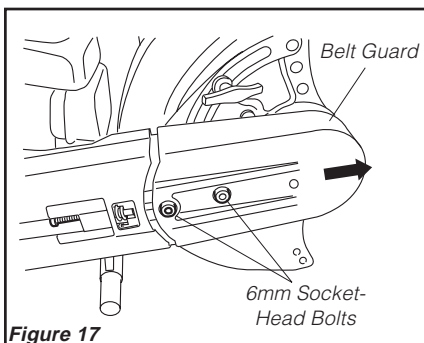

Figure 17
3. Using a 6mm hex wrench, remove the two belt guard bolts and slide the belt guard forward to remove. See Figure 17.